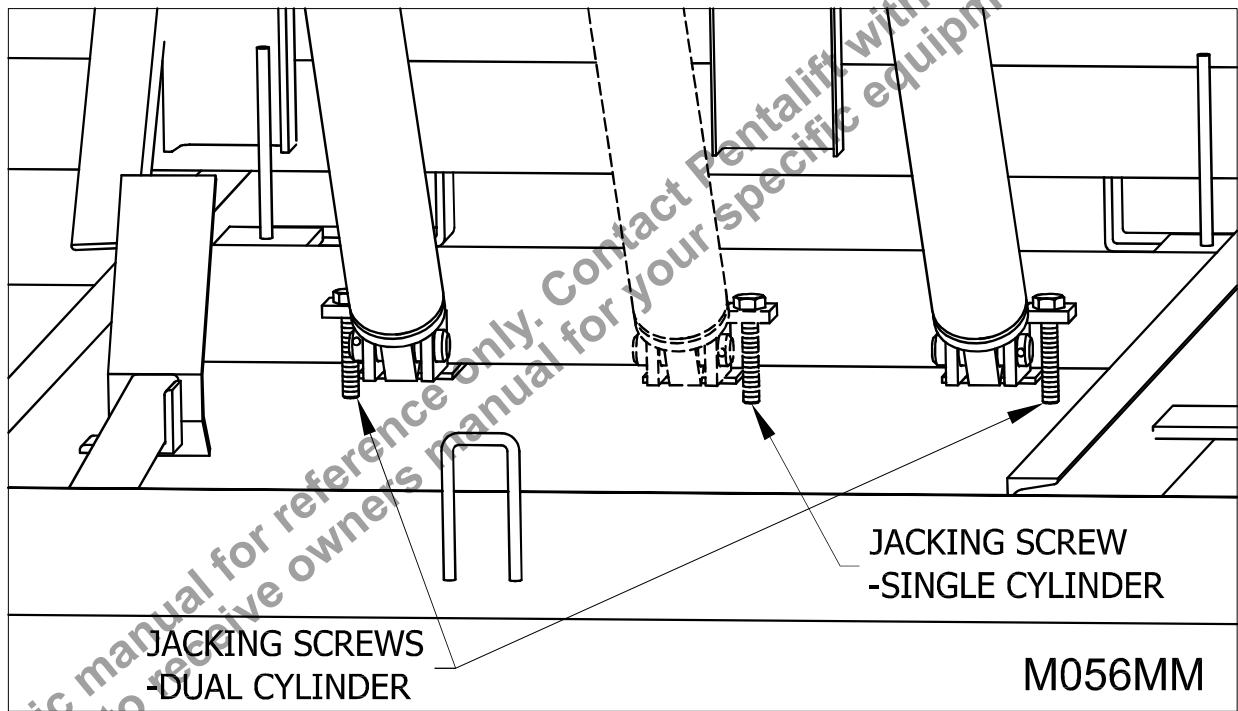

Figure 51: Jacking Screw(s)
1. \_\_\_ Jacking screw(s). (See "Figure 51: Jacking Screw(s)" on page 40)